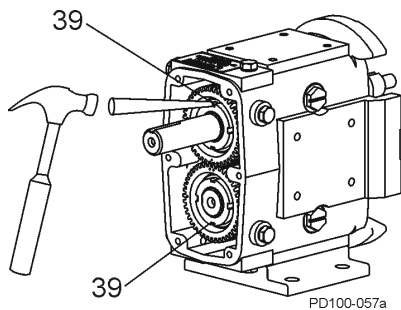

Figure 40 - Straighten Lock Tab
1. Straighten the tab on the lock washers (Figure 40, item 39).